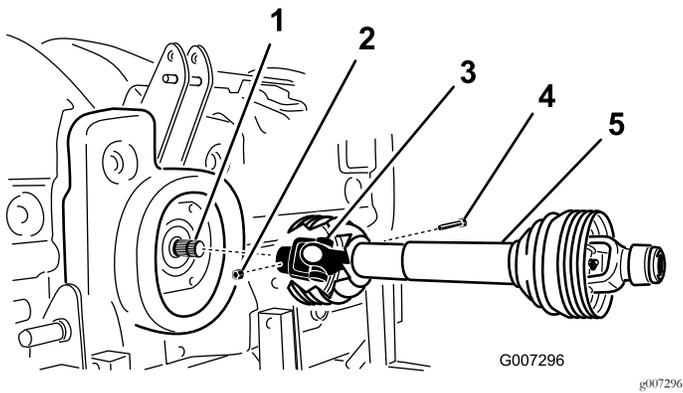

Figure 11
2. Connect PTO shaft to the gearbox input shaft with a 1/2 x 3.00 inch bolt and 1/2 inch nut (Figure 11).